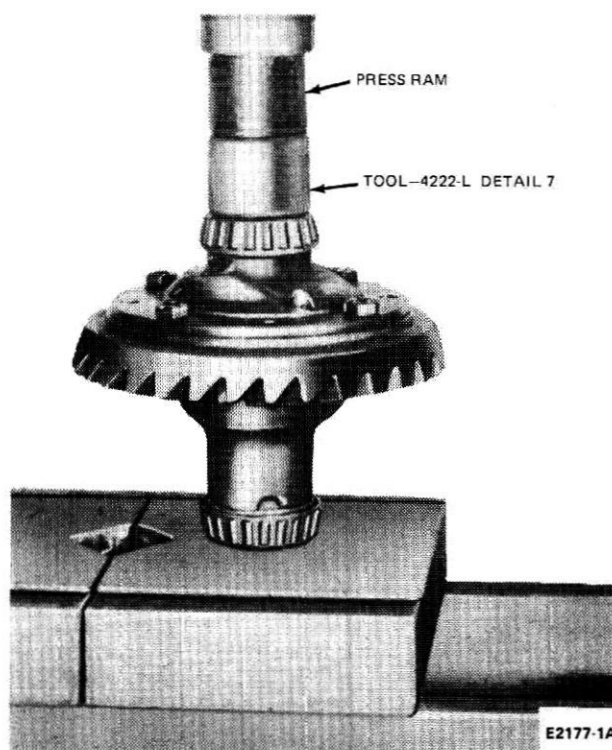

FIG. 25 Differential Bearing Installation
7. If the differential bearings have been removed, press them on as shown in Fig. 25.